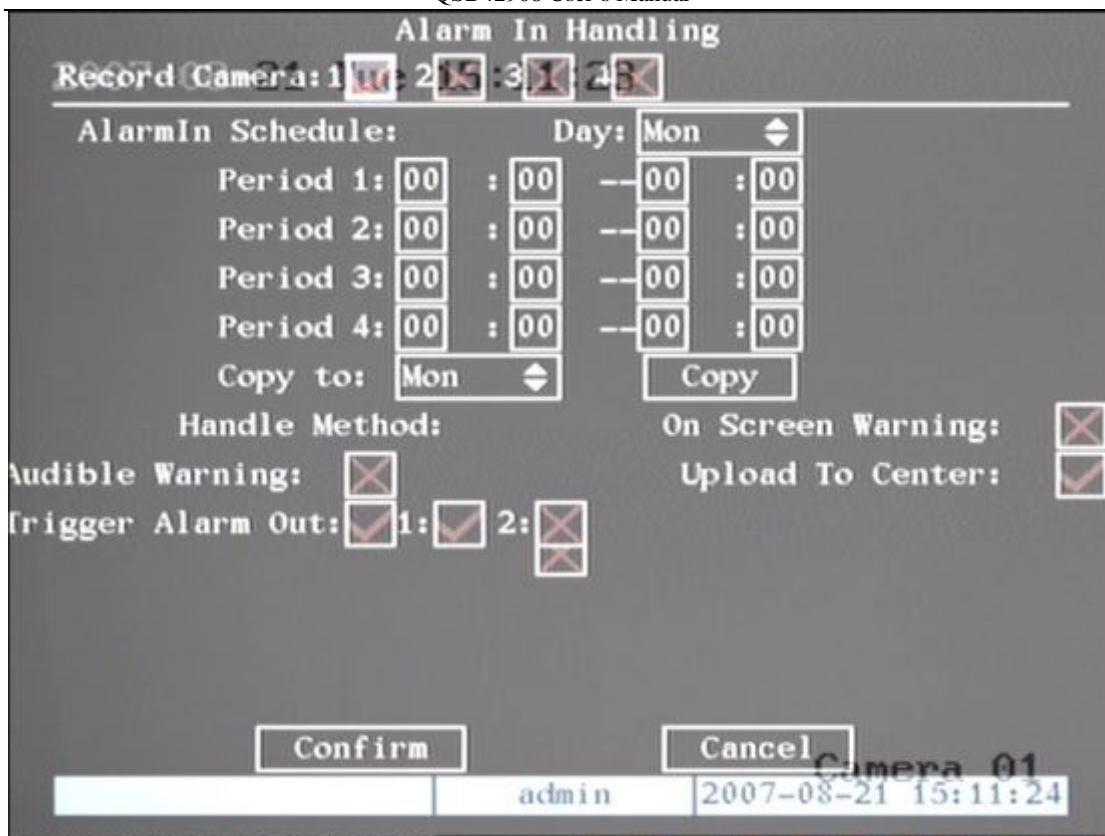

Fig 5.23 Alarm in handling setup
**[ENTER]** key, you will enter into “Alarm in Handling” sub menu as shown in fig 5.23